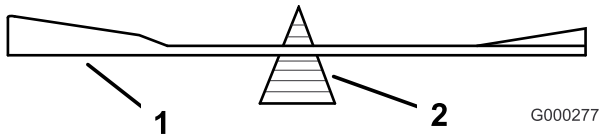
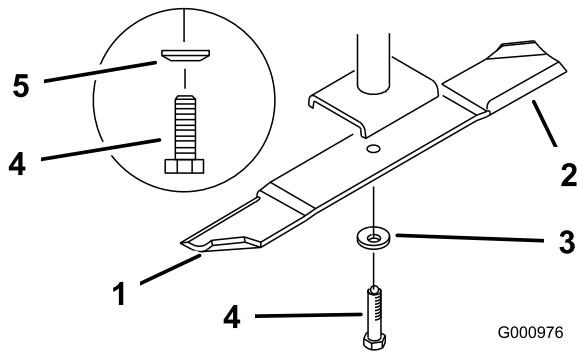

Figure 65
Figure 66
2. Remove the blade bolt, spring disk and blade from the spindle shaft (Figure 66).
2. Check the balance of the blade by putting it on a blade balancer (Figure 65). If the blade stays in a horizontal position, the blade is balanced and can be used. If the blade is not balanced, file some metal off the end of the sail area only (Figure 66). Repeat this procedure until the blade is balanced.
1. Install the blade onto the spindle shaft (Figure 66).
2. Install the spring disk and blade bolt. The spring disk cone must be installed toward the bolt head (Figure 66).